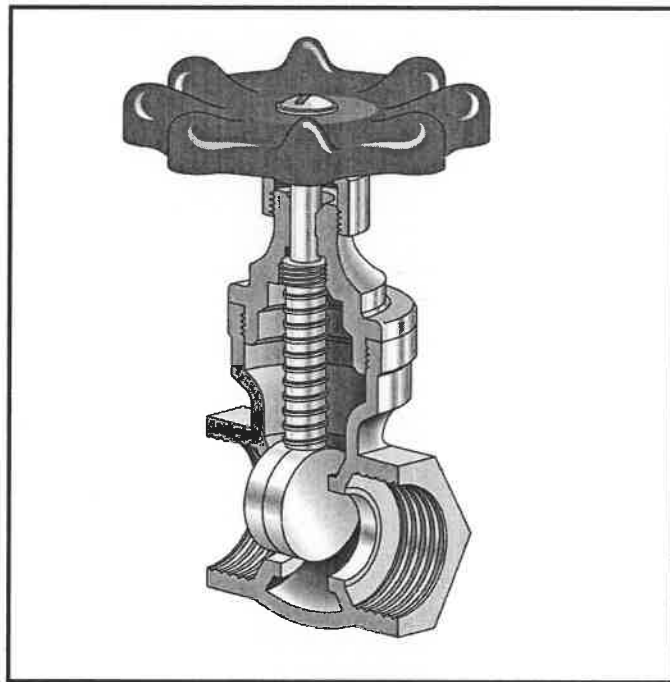

FIGURE 4.4
4.4 FIGURE 4.4 below shows a valve used in cold-water supply systems.